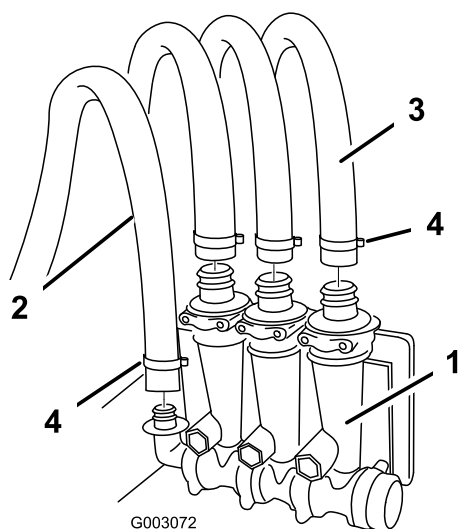

Figure 16
1. Connect the three hoses from the center boom to the flow monitor so that the monitor indicators correspond to the Spray Nozzles on the Center Boom (i.e. left nozzle on left flow indicator, etc.).. Use a hose clamp to secure each hose (Figure 16).
1. Connect one end of the 34 inch center boom supply hose to the flow monitor at the 90 degree elbow barb (Figure 16) and the other end to the outlet on the center control valve. Use 2 large hose clamps to secure the hose at each end.